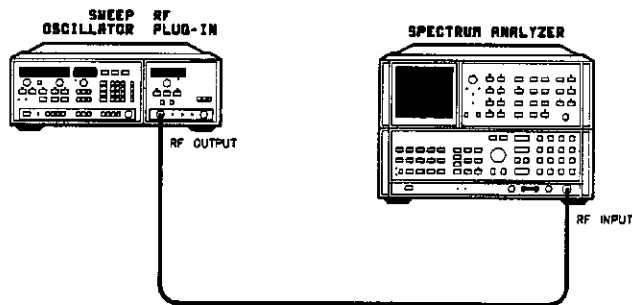

Figure 4-4. Frequency Stability Test Setup
1. Connect the equipment as shown in Figure 4-4. Turn the equipment on. On the sweep oscillator and spectrum analyzer, press [INSTR PRESET] and allow one hour warm up.